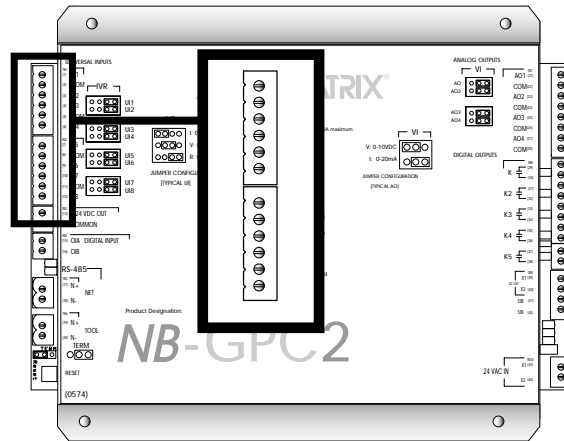

Figure 2-7: Location of the Universal Inputs on the NB-GPC2
The NB-GPC2 provides a total of twelve universal inputs (UIs). It has eight (8) on-board universal input points shown in Figure 2-7. These correspond to the Universal Input 1 through Universal Input 8 objects. Universal Input 9 through Universal Input 12 are exclusively for use with digital SBC-STATs and relative humidity sensors.